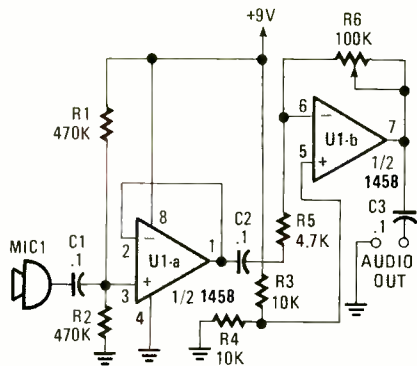

Fig. 5. With this impedance-matching preamp, you can use an old crystal microphone with your favorite transmitter, PA amplifier, or tape recorder.
**Preamp.** Our next circuit, see Fig. 5, is an impedance-matching preamp that will allow you to use an old crystal microphone with your favorite transmitter, PA amplifier, or tape recorder. Crystal-microphone elements normally have a
In Fig. 5, op-amp U1-a (1/2 of a 1458 dual op-amp) is set up as a voltage follower that offers a very high, input impedance; the input impedance of the circuit (for practical purposes) is equal to R1 and R2 in parallel, or about 235k. The op-amp's output impedance is very low in comparison to that of its input. Op-amp U1-b is configured as an inverting amplifier with a variable voltage gain (controlled via R6) ranging from less than 1 to over 20.
#### PARTS LIST FOR FIG. 5